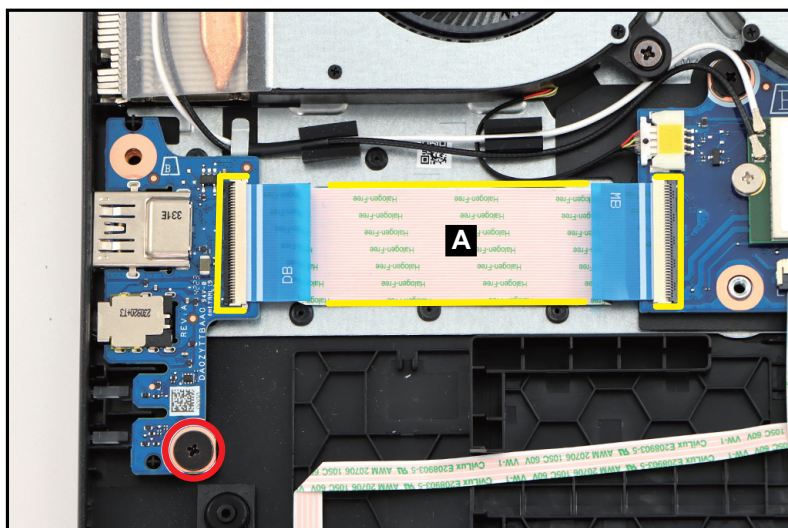

Figure 1-22. USB Board Removal
1. Disconnect the USB board FFC (A) from the USB board and mainboard connectors. Then carefully detach the FFC from its underneath adhesive (highlighted with the yellow lines) as shown in Figure 1-22. Remove the USB board FFC.
2. Remove one (1) screw securing the USB board (Figure 1-22).